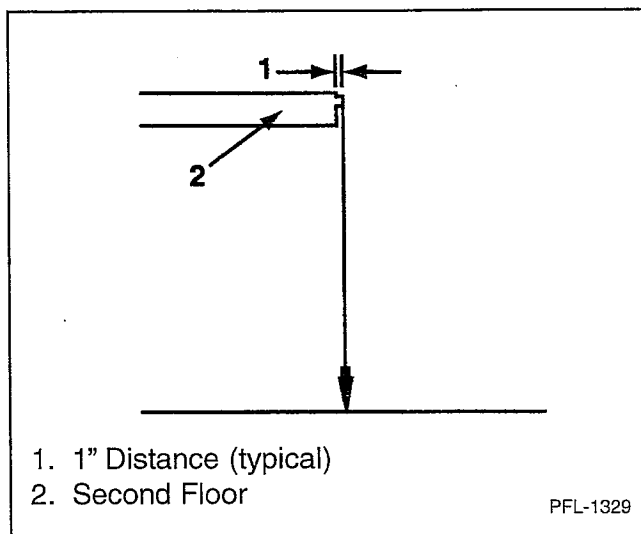

Figure 1
1. The load/unload edges of the carriage should be 1" away from the edge of the upper floor level; and if there is a pit, the same dimensions apply (unless otherwise noted on GA). See Figure 1.